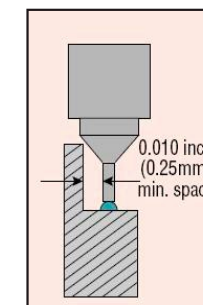

Figure 7-7 Sidewall interference with dispensing needle
**Avoid Z-axis obstructions.** Sidewall proximity to the dispensing needle Often, a form-in-place EMI gasket is applied along a “ledge” adjacent to a higher sidewall. The dimensional tolerances on ledge and sidewall locations are particularly critical, to avoid sidewall interference with the moving needle a minimum of 0.010 in clearance is required (Figure 7-7).